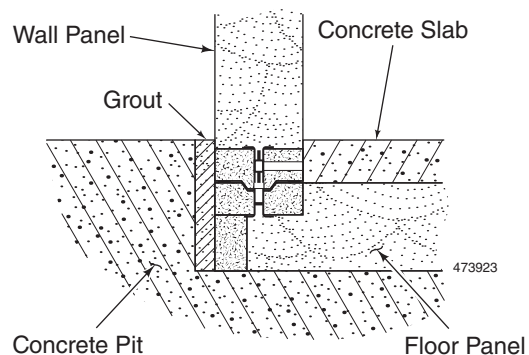

Figure 12. Installation Below Grade
**Installation below grade** – Floor panels may be installed recessed below grade. This allows for the inside and outside floors to be at the same elevation. In some cases, floor panels are recessed even deeper, to allow for a concrete slab to be poured above. See Figure 12.